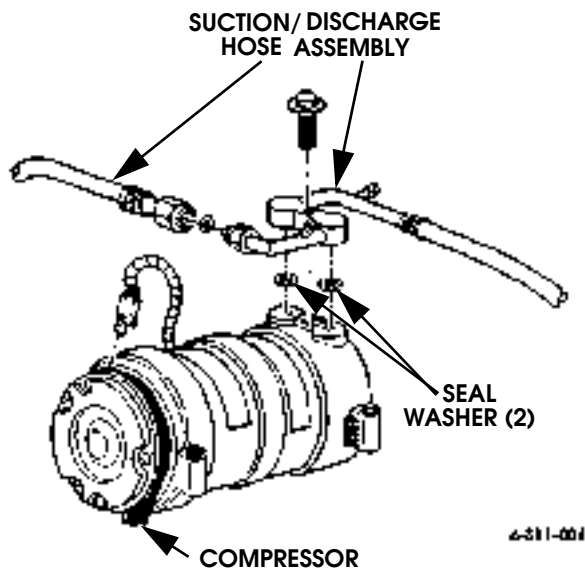

Figure 2-55: Suction/Discharge Hose Assembly Mounting
23. Disconnect A/C hoses at compressor. Move hoses aside for working clearance. Cap open ends to prevent dirt entry (Figure 2-55).